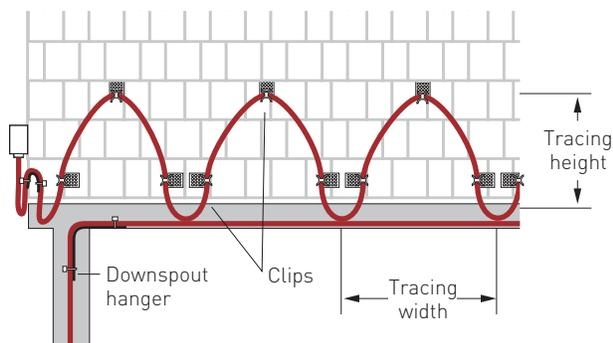
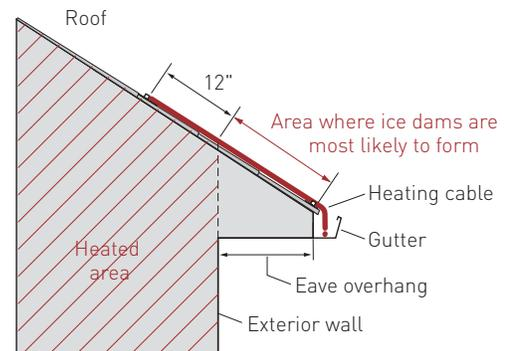

Figure 1 Front view of roof with WinterGard Wet system
Figure 2 Side view of WinterGard Wet system
Figure 1 and Figure 2 below illustrate several important terms:
- Run heating cable up the roof until it is approximately 12 inches past the exterior wall into the heated area (see Figure 2 on page 3).
- For gutter deeper than four inches, additional cable will be needed, contact Pentair Thermal Management at (800) 545-6258.
¹. See Figure 2
². See Figure 1
- Run the heating cable up the seam until it is approximately 12 inches past the exterior wall and over a heated area (see Figure 2 on page 3).